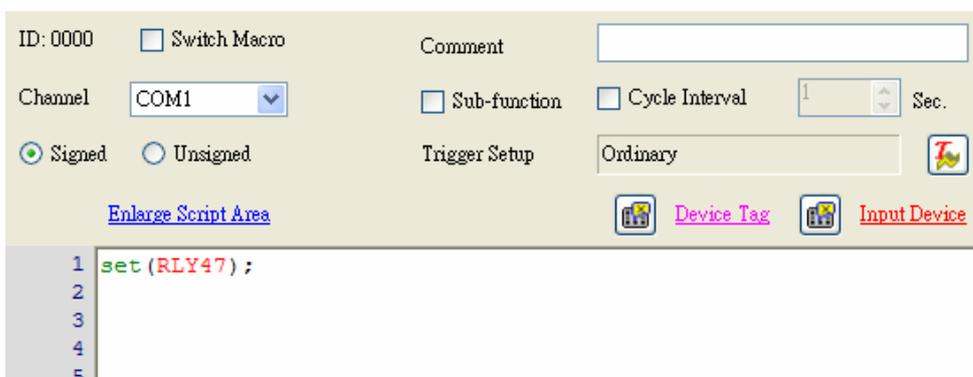

Fig. 3-4-5-19 、 Device setup
- When editing comments in Chinese in the macro editor, you need to disable the  auto syntax analysis, as shown in figure 3-4-5-20.